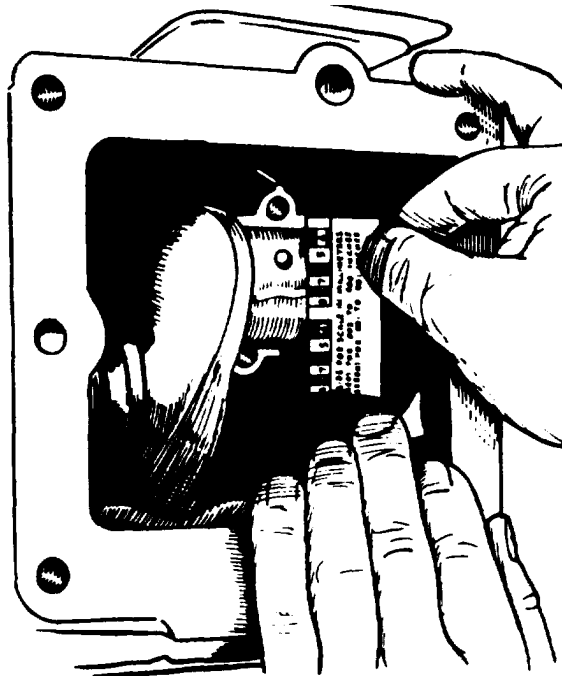

Figure 5-54. Measuring Bearing Clearance with Plasti-Gage (RGMD-K/1-10)
- (2) Proper clearance is obtained by replacing the pin bushing and the bearings. The rod bearings are precision size and require no reaming.
- (3) Install the connecting rods and caps with raised lined (witness marks) aligned and with the caps facing toward the oil base. The rod and cap numbered 2 fits on the crankshaft journal nearest the bearing plate. Coat the crankshaft journal bearing surfaces with oil before installing the rods. Crank the engine by hand to see that the rods are free. If necessary, rap the connecting rod cap screws sharply with a soft-faced hammer to set the rod square on the journal.
- (4) See figure 5-54 and check bearing clearance with Plasti-Gage as follows: